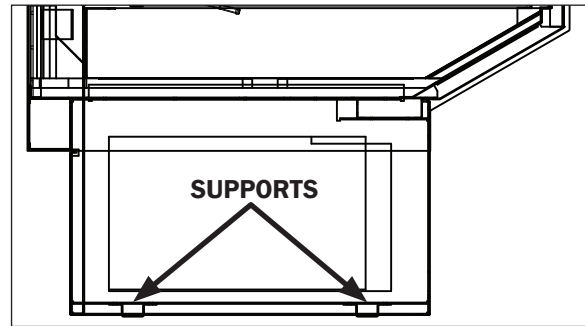

Fig. 1 Horizontal supports
5. Locate horizontal support (Fig. 1) positions along the chalk line. Spot properly leveled shim packs at each support location.